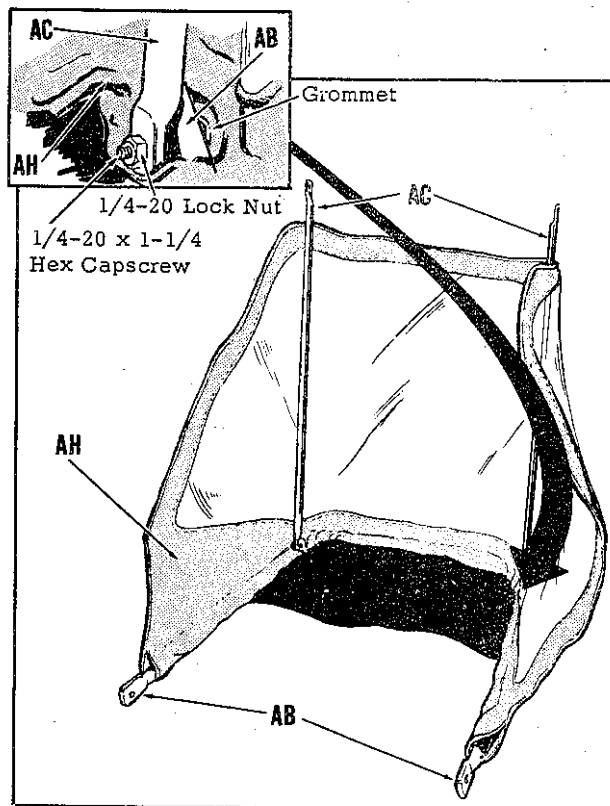

Figure 2
3. Slide the Hood Frame (AB) through the channel in the canvas portion of the Windshield (AH).
4. Assemble the two Front Braces (AC) to the Hood Frame (AB) using 1/4-20 x 1-1/4" lg. hex capscrew and lock nut. The flat side of the front brace is to face the inside of the cab and the capscrew passes through the grommet in the canvas from the outside of the cab. Figure 2 shows a close-up of the point at which the front brace is fastened to the hood frame. Refer to Figure 2 for view of both front braces as assembled to hood frame.